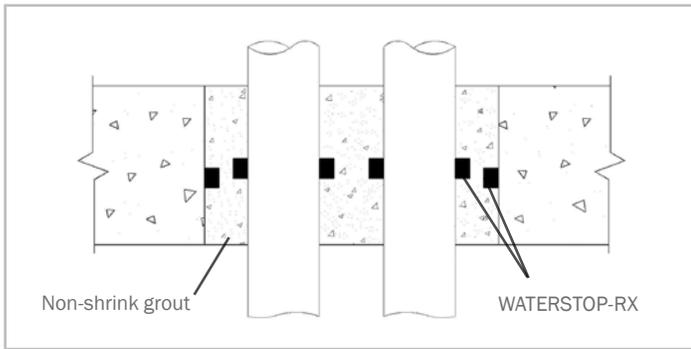

Figure 4.3 - Multiple pipe penetration
**Multiple Pipe Penetrations:** Install WATERSTOP-RX around each pipe, as well as, around any block out box construction joint. WATERSTOP-RX 102 shall be installed around penetrations with less than 4" (100mm) between penetrations (see Figure 4.3).